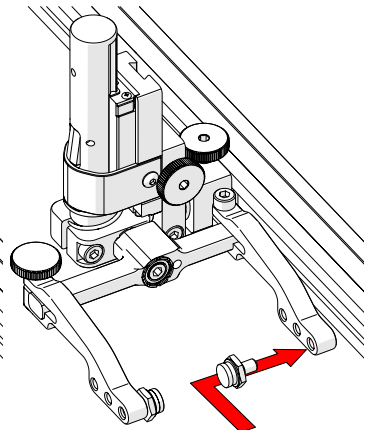

Fig. 91 - Place buttons
3. Position the pivot buttons where necessary. When narrow scanning footprint is required, use the pivot button holes closest to the yoke (Fig. 91).